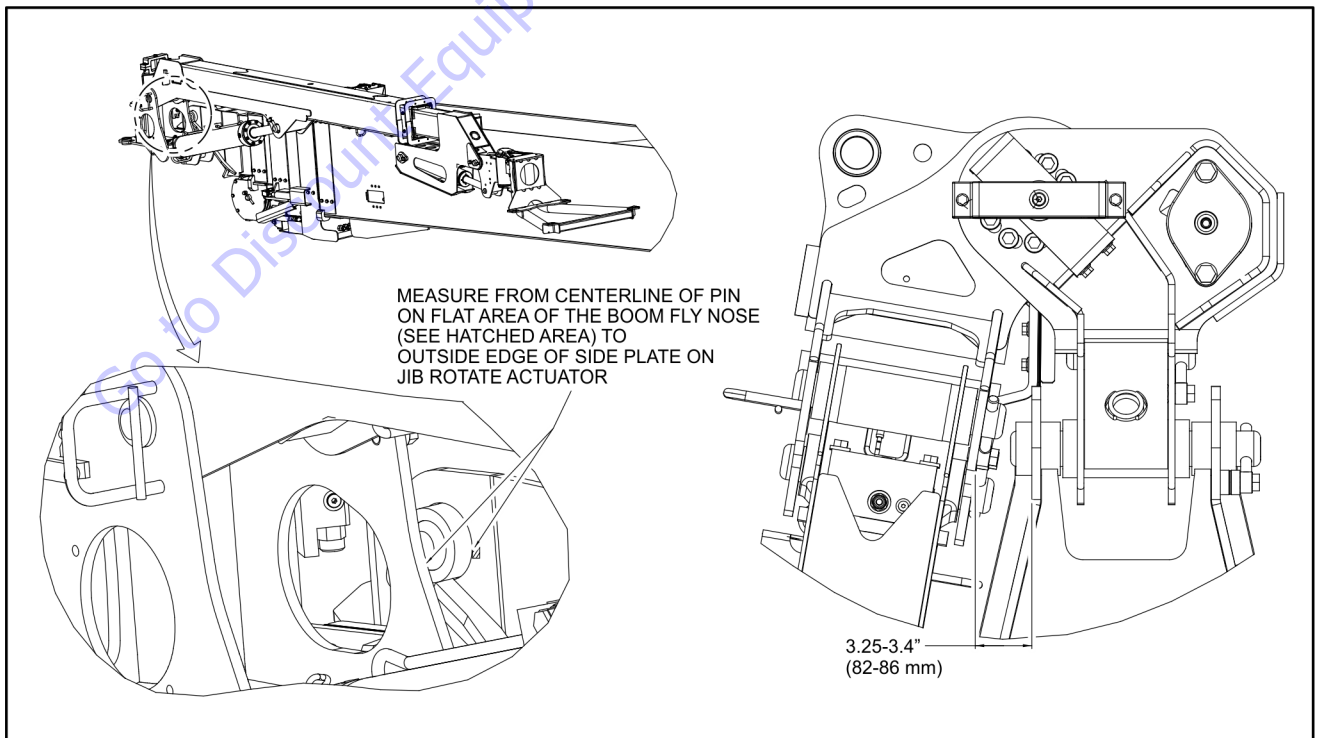

Figure 4-39. Jib Stow Shimming Measurements
4. Shim until the distance between the jib and the side of the base boom reaches the dimension shown in Figure 4-39, Jib Stow Shimming Measurements.